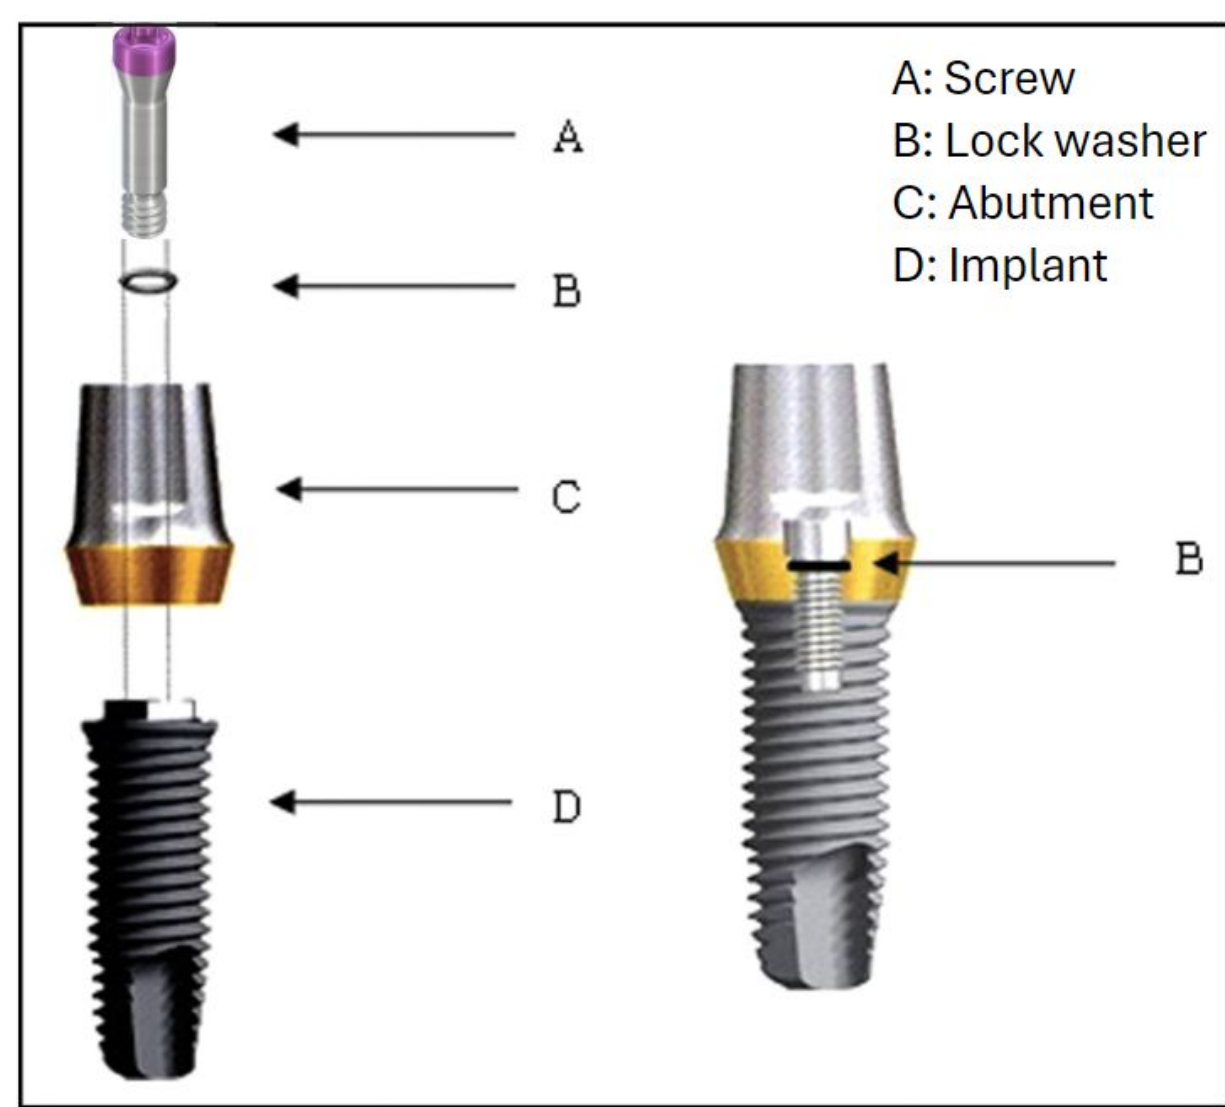

Figure 1: Fixture-abutment complex with washer [1]
- The initial design idea was to use a lock washer inside the abutment as shown in Figure 1